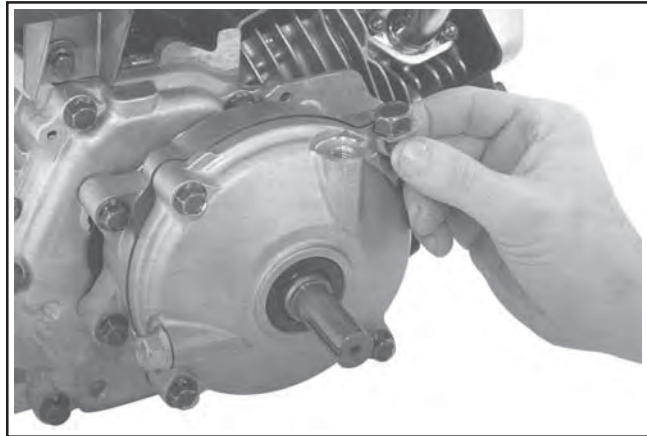

Figure 11-46. Fill/Vent Plug Installation.
9. Install the level plug and fill plug into their respective locations. The fill plug contains a vent hole and must be installed on top. See Figure 11-46. **Torque the plugs to 15-19 N·m (133-168 in. lb.).**